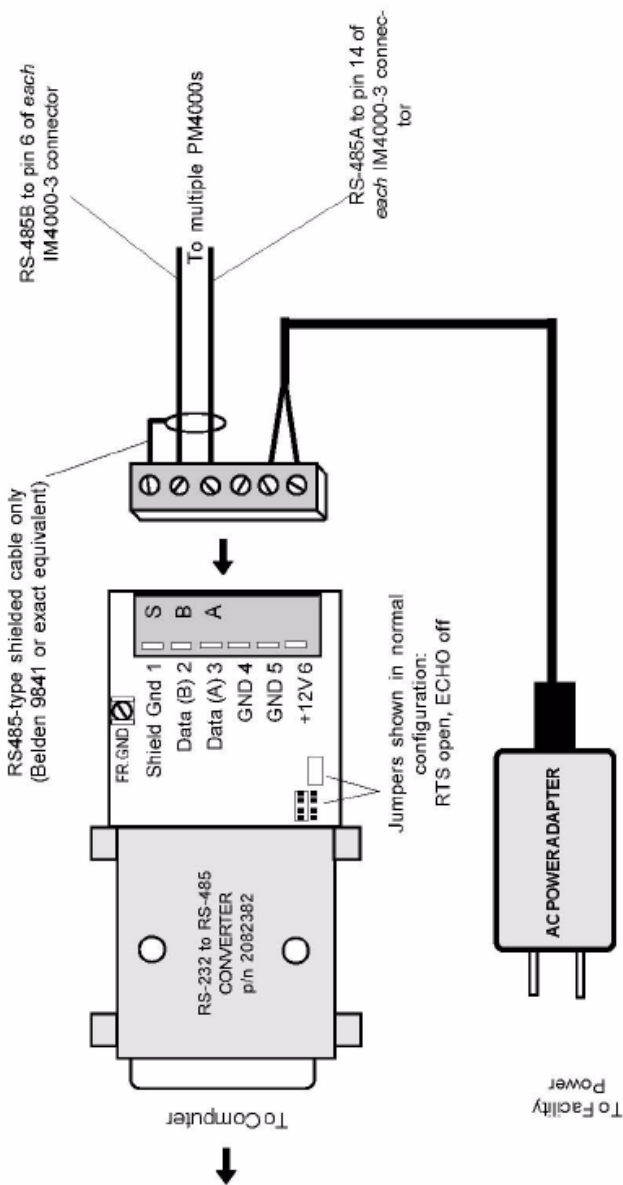

Fig 5-4: Using the RS232-to-RS-485 Converter in Multiple Applications
- RS-232/RS-485 converter: Changes typical RS-232 serial output of computers to RS485 (Figure 5-4).